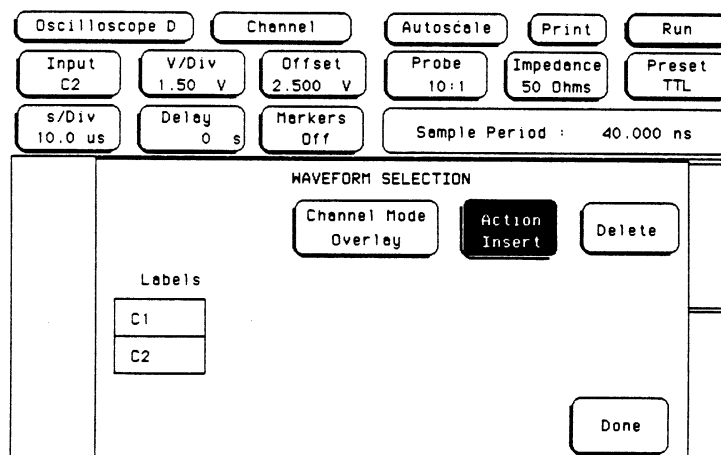

Figure 4-10. Insert Field
- j. Touch **Action** field and set for insert. See figure 4-10.